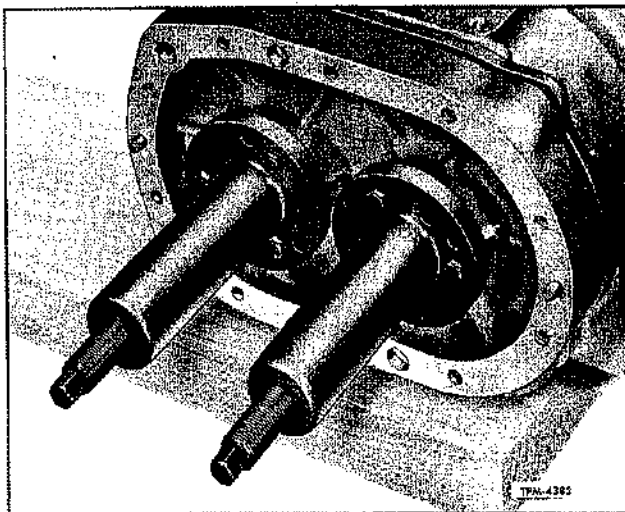

Figure 8—Removing Blower End Plates
2. Install puller tool J-6270-1 at rear end plate in manner illustrated in figure 8.